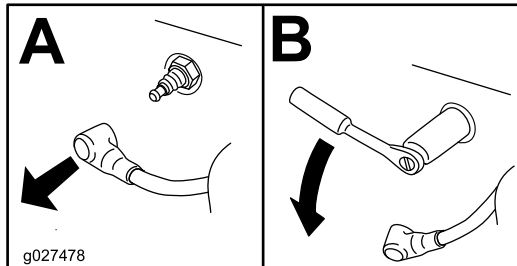

Figure 20
4. Remove the spark plug (Figure 20).